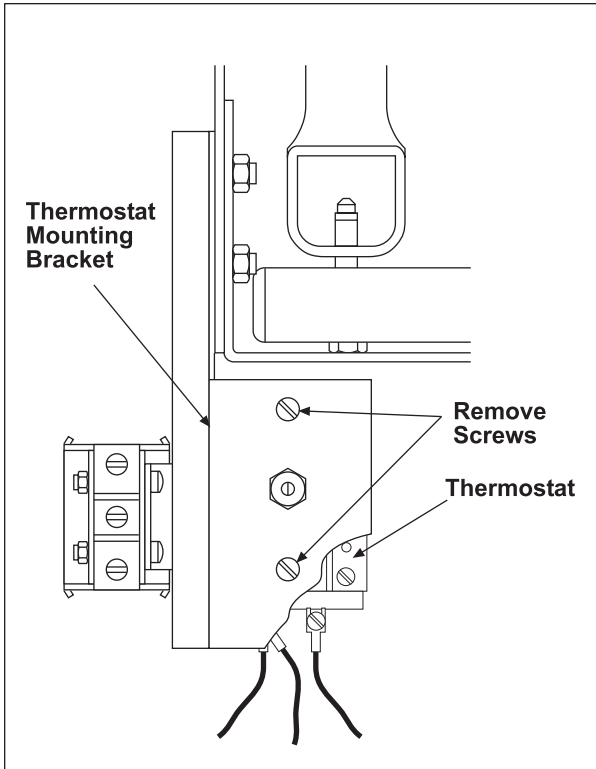

Figure 5
- Remove thermostat mounting screws and remove thermostat from mounting bracket (Figure 5).